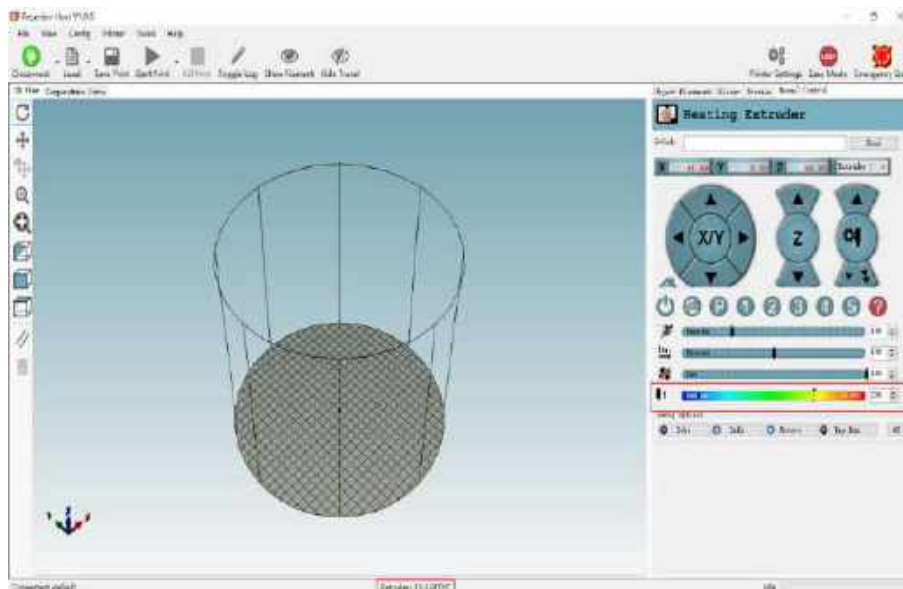

Figure 5.119 Heat the extruder
1. Set the heating temperature to 200°C on the **Manual Control** tab of the **Repetier Host** page and click , as shown in Figure 5.119.